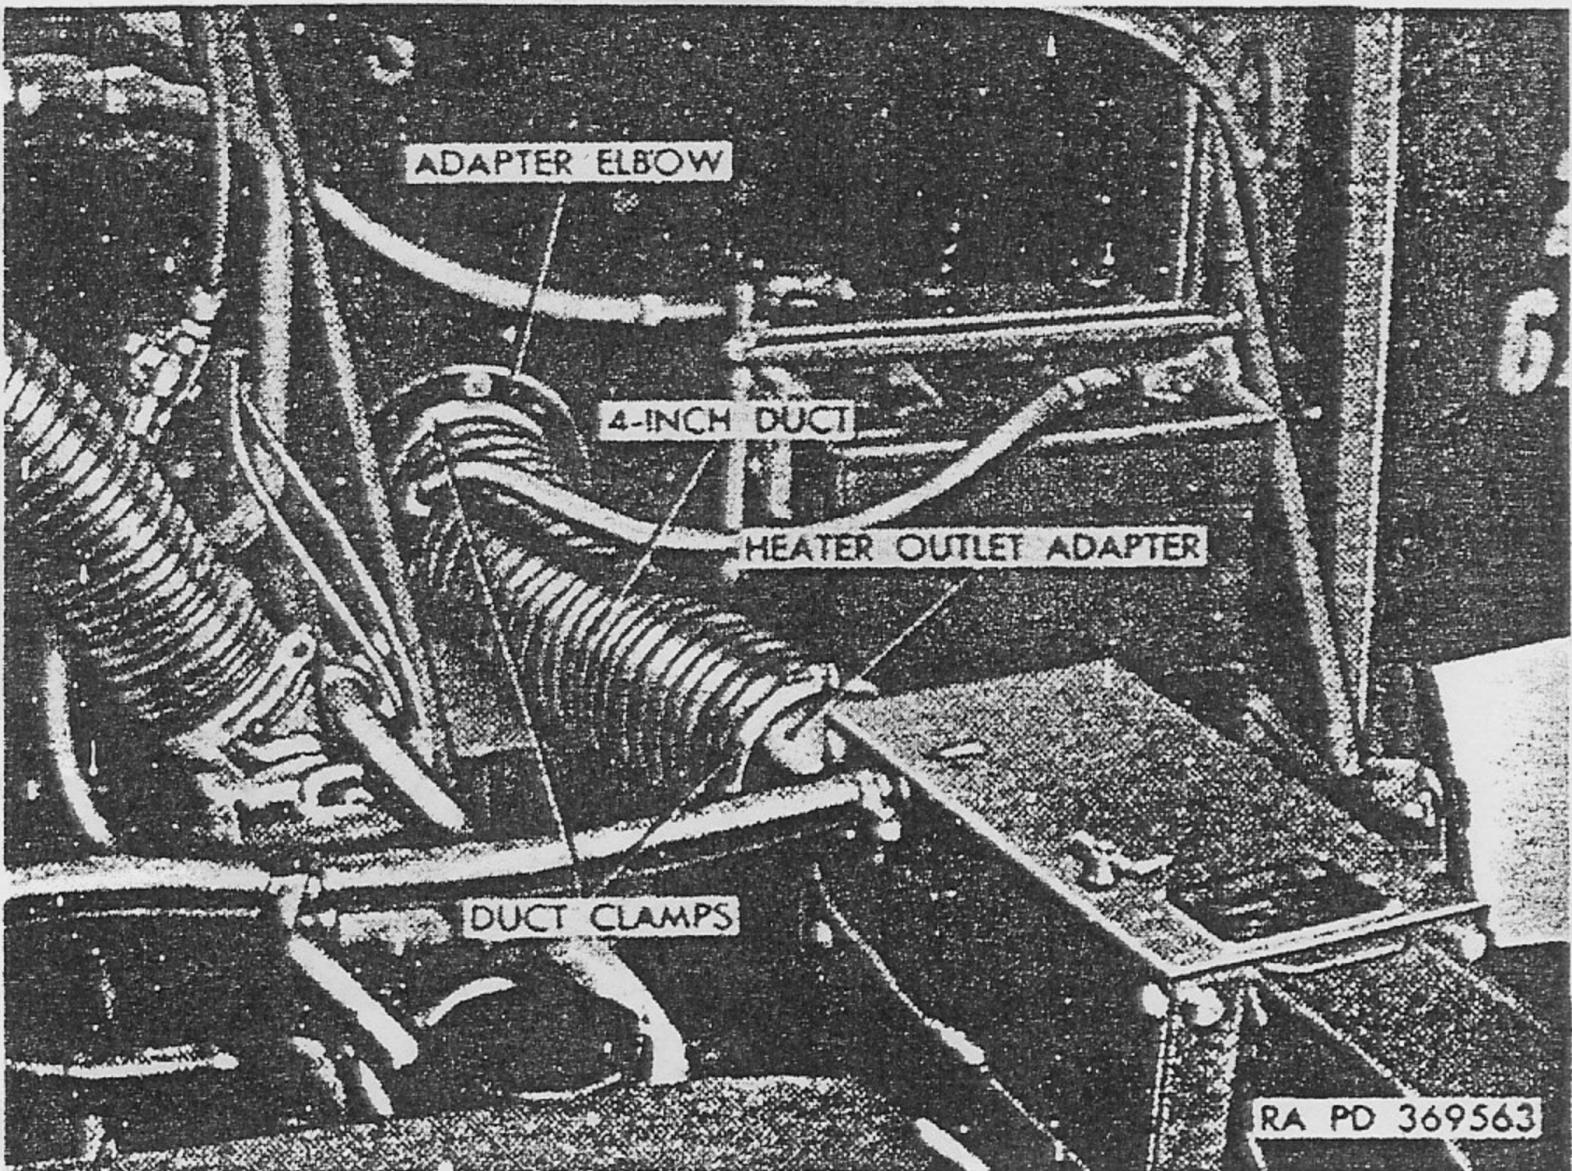

Figure 9. Adapter elbow and duct installed.
fig. 1 and fig. 9) in opening, from engine side of the firewall, with air outlet toward passenger side of cab. Secure with two of the screws, nuts, and washers removed above. If existing cover plate holes do not align with holes in adapter elbow, mark and drill new holes.
c. Install 12-inch long duct (E, fig. 1) on end of heater outlet adapter and on adapter elbow and secure with two duct clamps (L, fig. 1) as shown in figure 9.